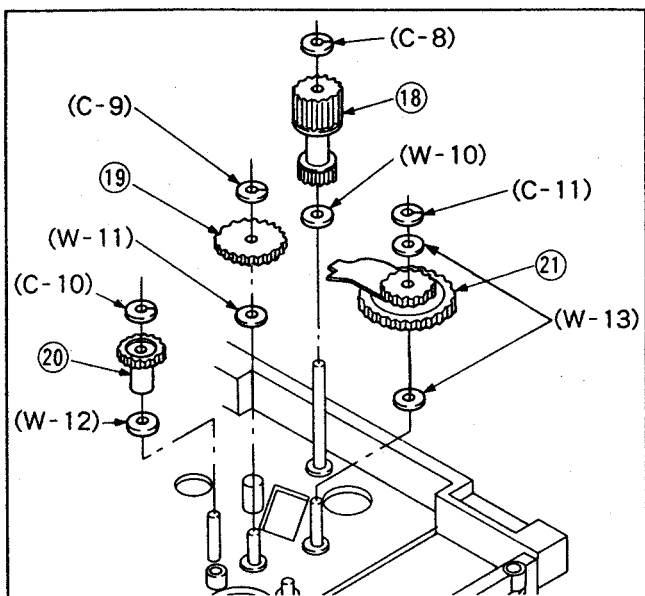

Fig. M10
- 23) Reinstall the T clutch gear unit. See Fig.M10.